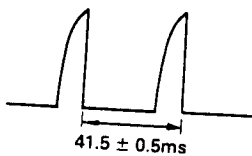

Figure 38.
2. Monitoring TP4 with an oscilloscope (internal trigger), adjust R709 so that the requirement given in Figure 38 be met. (Apply no video signal at this time.)